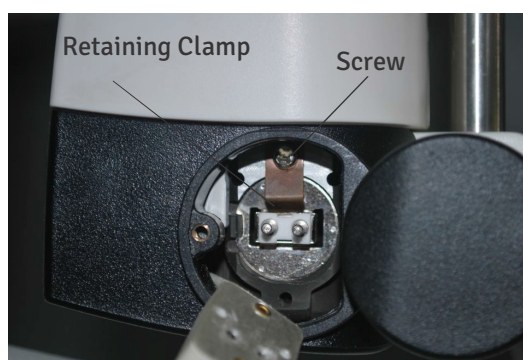

Figure-22 Retaining Clamp
7. Move the Retaining Clamp back into its original position. Refer to Figure-22.